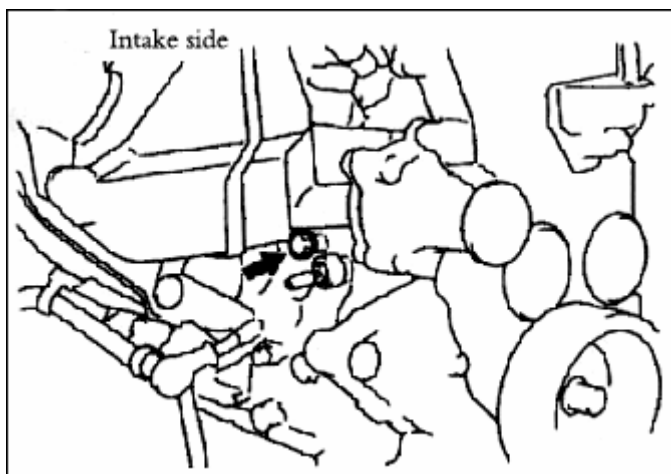

Fig. 7-1
(1) Drain the engine coolant by removing the drain plug and then the radiator cap.
(2) Remove the cylinder drain plug from the cylinder block to drain the engine coolant. (see Fig 7-1);